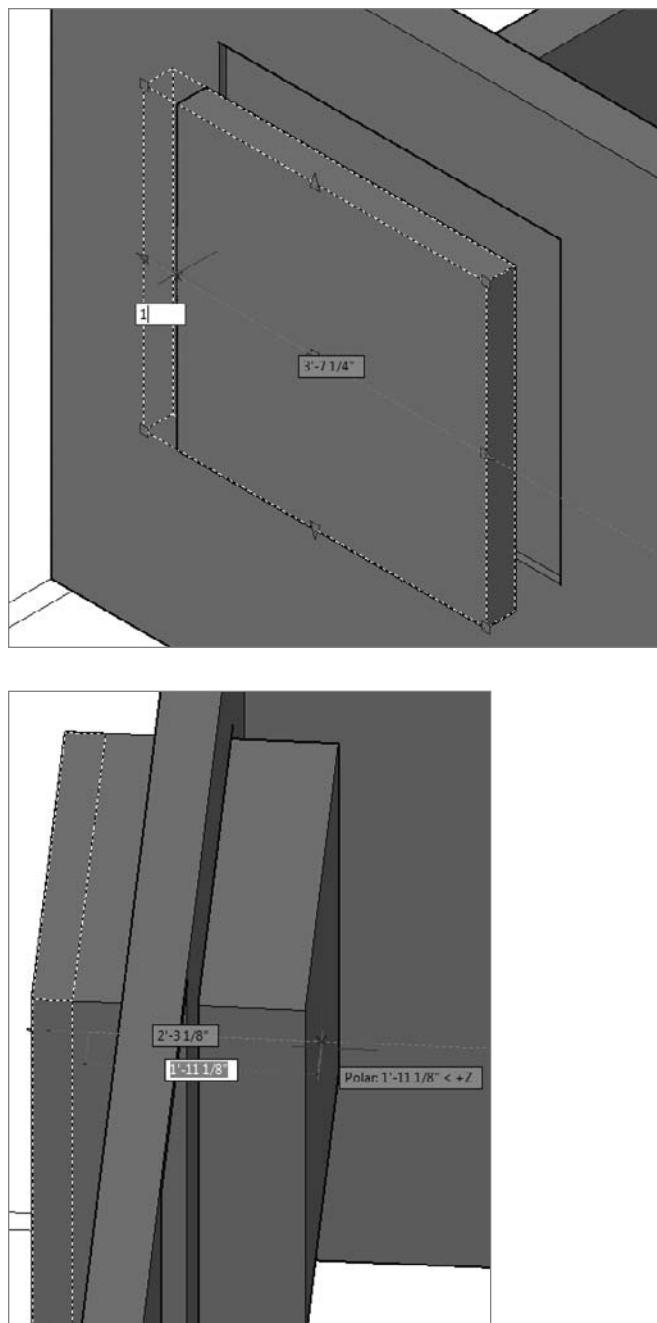

FIGURE 16.31 Moving the block-out's perimeter grips to shrink it slightly (top); the box's increased depth (bottom)
8. Turn on Polar Tracking, and then select each of the four outward-pointing triangular grips along the perimeter and move them 1" (25 mm) toward the inside of the box (see the left image of Figure 16.31). Click the triangular grip on the back of the box, and drag it until the box extends all the way through the back wall (see the right image of Figure 16.31).